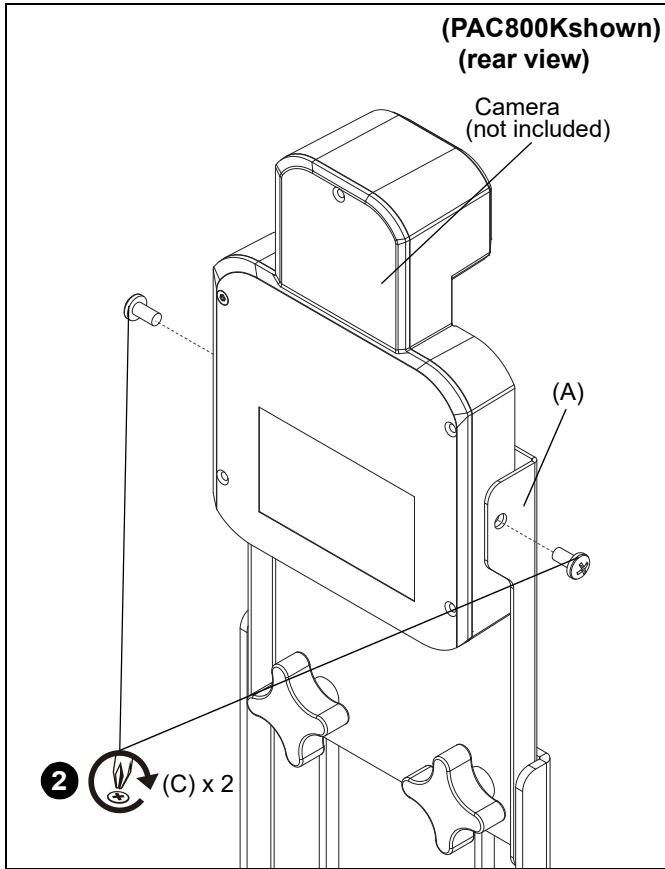

Figure 6
1. Use two #10-32 x 3/8" Phillips pan machine screws (C) to secure camera to main bracket (A). (See Figure 6)